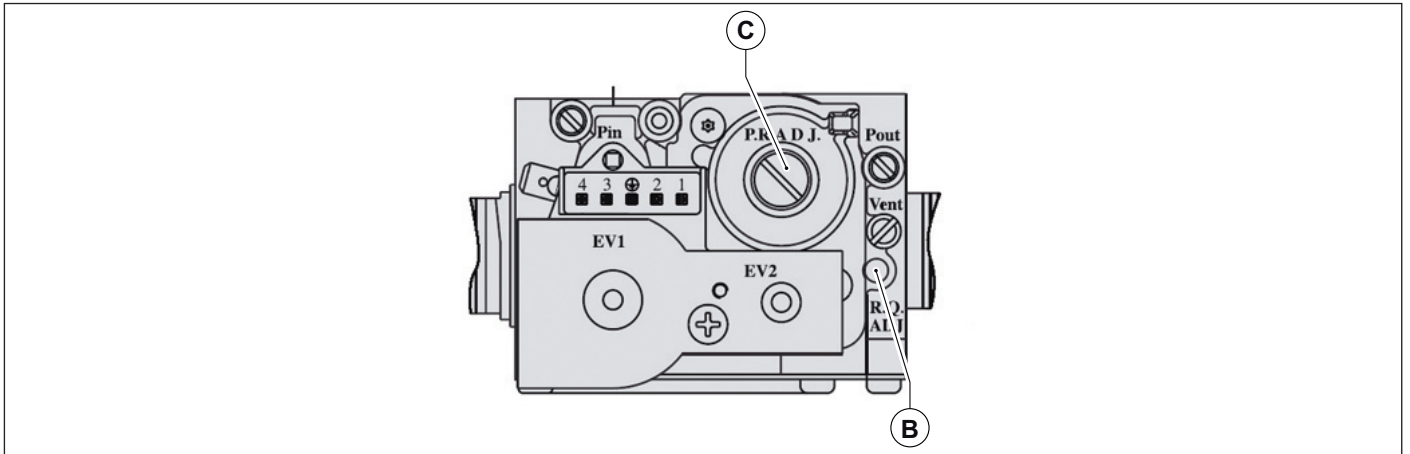

Fig. 24 Adjusting CO2 value
- Set flue gas CO2 content by turning the ratio adjuster **B** (see Fig. 24 Adjusting CO2 value) and ensure that reading falls within the limits of Tab. 11 Flue CO2 content. Let boiler flue cleaning function on and continue with the next point "Minimum heating output adjustment".
- Set flue gas CO2 content by turning the offset control **C** (see Fig. 24 Adjusting CO2 value) and ensure that reading falls within the limits of Tab. 11 Flue CO2 content.